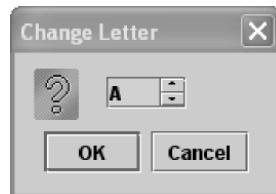

Figure 2-14. Change Letter dialog box.
2. In the Assign Instrument Letter dialog box, select the instrument, and then click **Change Letter**. The Change Letter dialog box appears (Figure 2-14). Select the letter you want for the instrument, and then click **OK**.